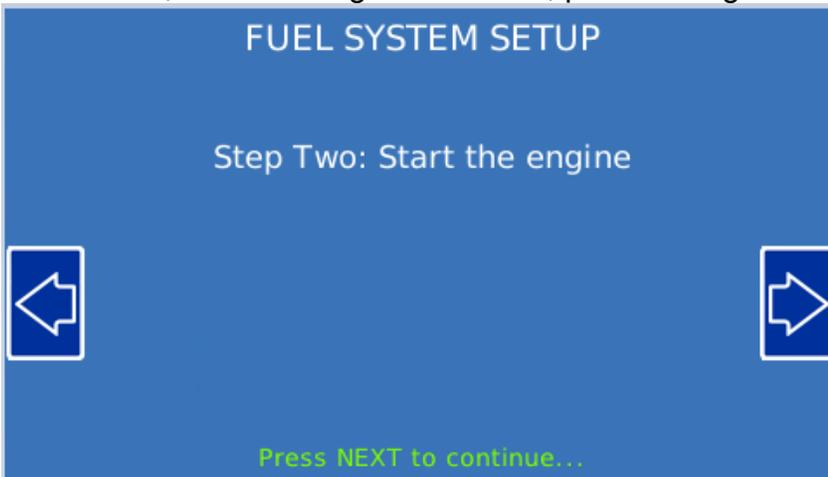

Figure 13-Step two: Starting the Engine
9. On the HMI, once the engine is started, press the right arrow. (See Figure 13).